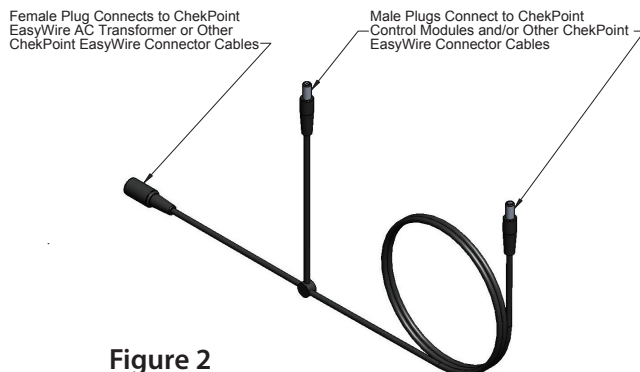

Figure 2
3. The EC-EASYWIRE4CC kit consists of a 48" long power cord with 2 male connectors and one female connector used to make the connections as noted in the diagram in Figure 2. In utilizing the EASYWIRE method, multiple EC-EASYWIRE4CC (ordered separately from the EC-EASYWIRE) must be used to connect and gang the ChekPoint electronic sensor faucets. The multiple number of EC-EASYWIRE4CC needed is one less than the number of ChekPoint faucets. For example, if you are ganging eight (8) ChekPoint faucets together, you will need to order seven (7) of the EC-EASYWIRE4CC and one (1) EC-EASYWIRE.